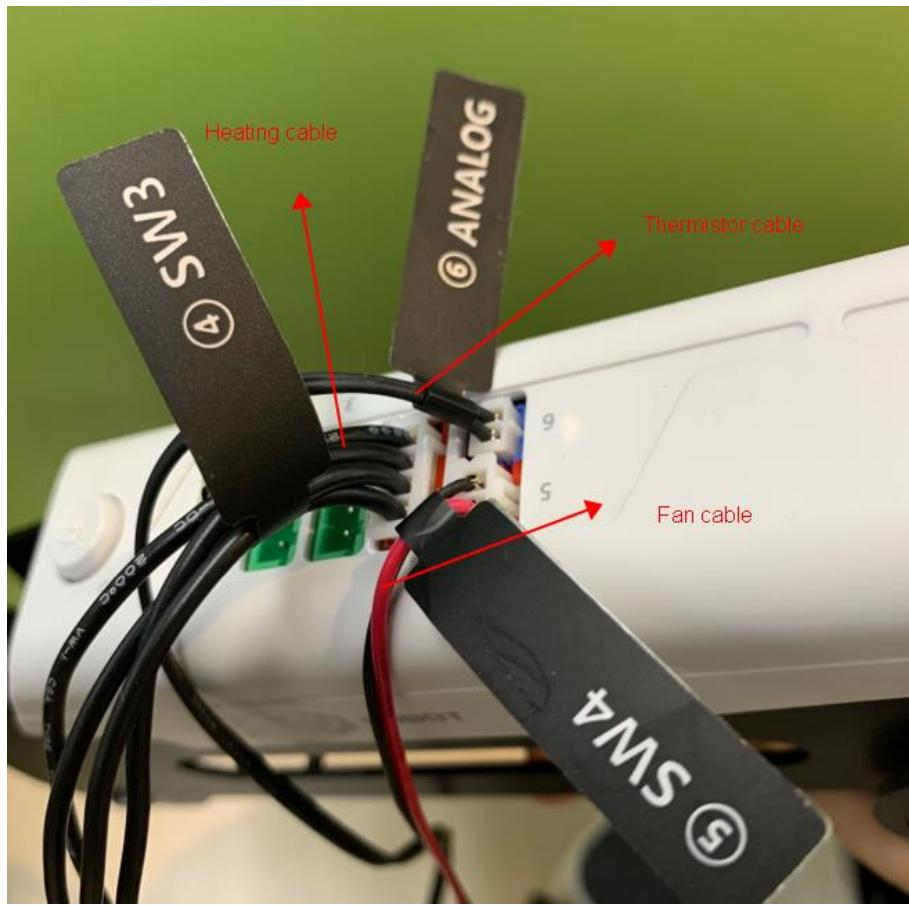

Figure 5.108 Connect hot end to the Forearm
**Step 5** Insert the heating cable to the interface **4** on the Forearm, the fan cable to the interface **5** and the thermistor cable to the interface **6**, as shown in Figure 5.108.